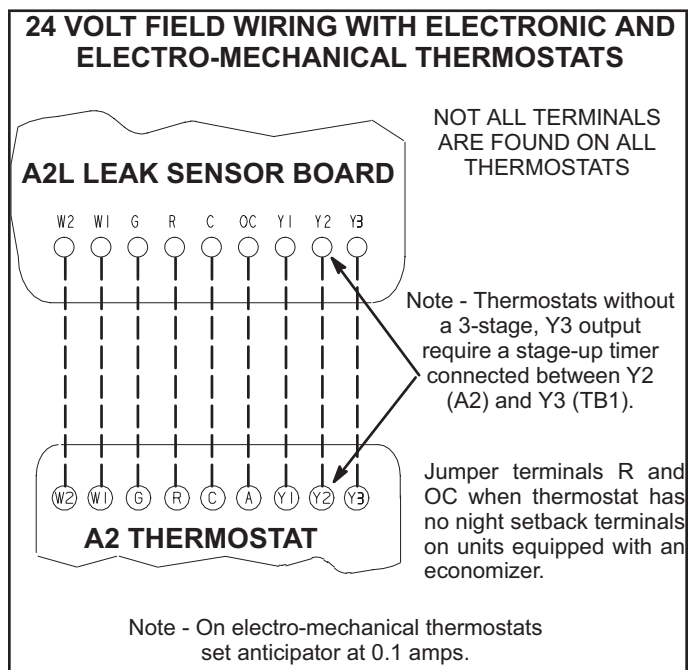

FIGURE 10
- 3 - Connect thermostat wiring to screw terminal strip labeled P1 on the Refrigerant Leak Sensor Board located near the center top of the control panel. Wire as shown in FIGURE 10 for electro-mechanical and electronic thermostats. If using other temperature control devices or energy management systems see instructions and wiring diagram provided by manufacturer.